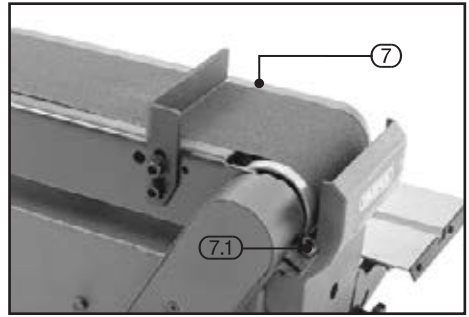

FIG.5
8.4 ADJUSTING SANDING BED ANGLE - FIG. 5